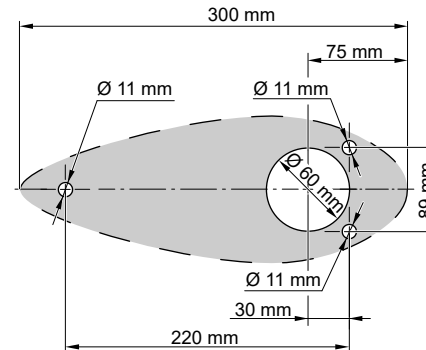

Fig. 48: Dimensions
1. Drill four holes in the boat's hull for installing the pod, **see "Fig. 48: Dimensions"**. If necessary, use the adjusted compensator block as a drilling template.
2. Push the compensator block (4) onto the mounting flange (5).